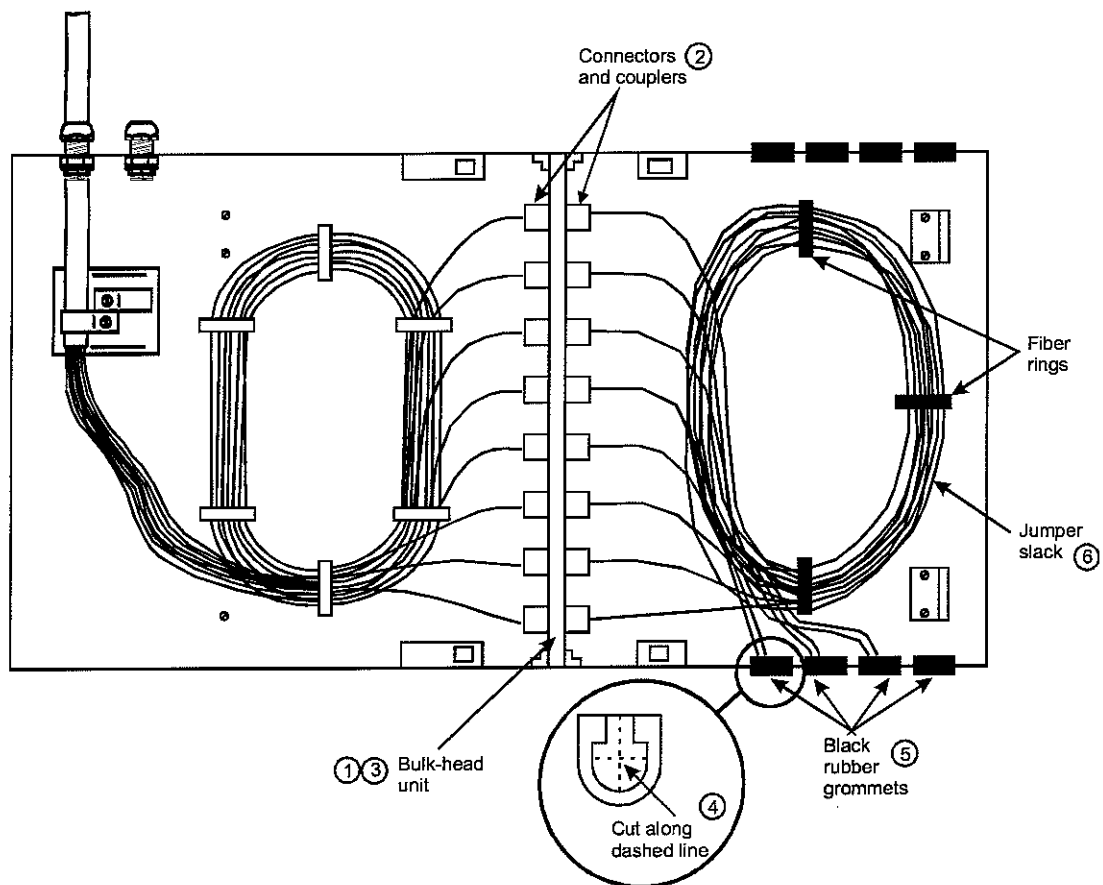

Figure 10—Jumper Slack Storage
1. Pull bulk-head unit out until it stops (Figure 10).